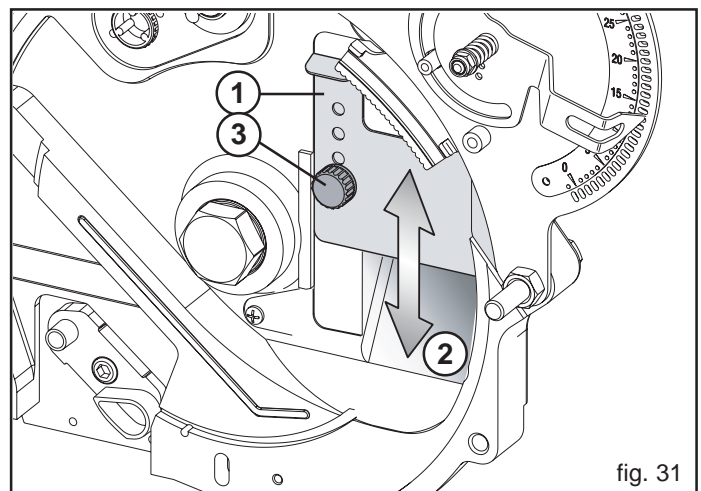

fig. 31
The anti-overflow plate (1 Fig. 31) can be adjusted to 5 positions and defines the width of the seed inlet gap (2 Fig. 31), so that these cannot flow out of the distributor due to excessive feeding. Adjustment is particularly needed when the ground slopes steeply or when working with small seeds.
**N.B.: Ensure that the knob (3, Fig. 31) has been well-tightened.**